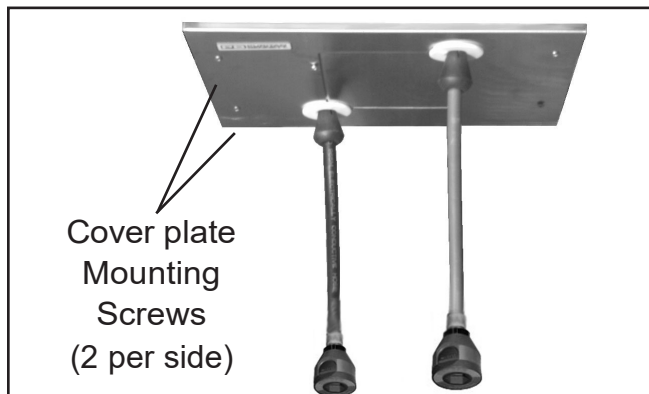

Figure 19
8. Slide cover plate assembly up hose(s) to mounting box. Be certain hoses are hanging straight down and not looped around guide rods or anchor bolts. Fasten cover plate assembly to mounting box using (4) 6-32 x 1 screws provided (Figure 19).